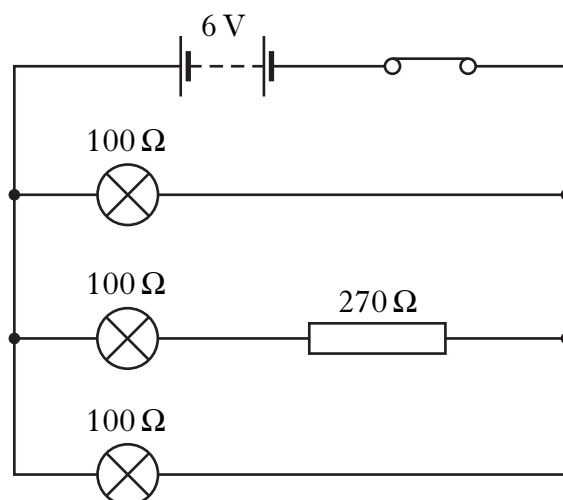

Figure Q6
6. An electrical circuit used to operate three lamps in a child's night light is shown in Figure Q6.
- (b) Indicate, with a cross (X) on Figure Q6, where an ammeter should be connected to measure the **total** current in the circuit.